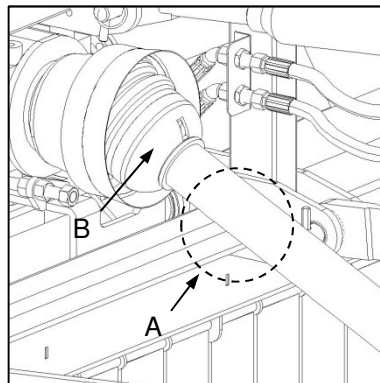

Fig. 2
- ✔ Following installation of the PTO shaft, lift the implement to an acceptable transport height and operate the hitch offset facility to both extremities of its travel. Ensure that there is no contact between the PTO shaft and any part of the implement (Fig. 2-A / 3-A).
- ✔ Ensure that universal joint operating angles (Fig. 2-B / 3-B) are not exceeded and that over-compression or over-extension of the PTO shaft is avoided.